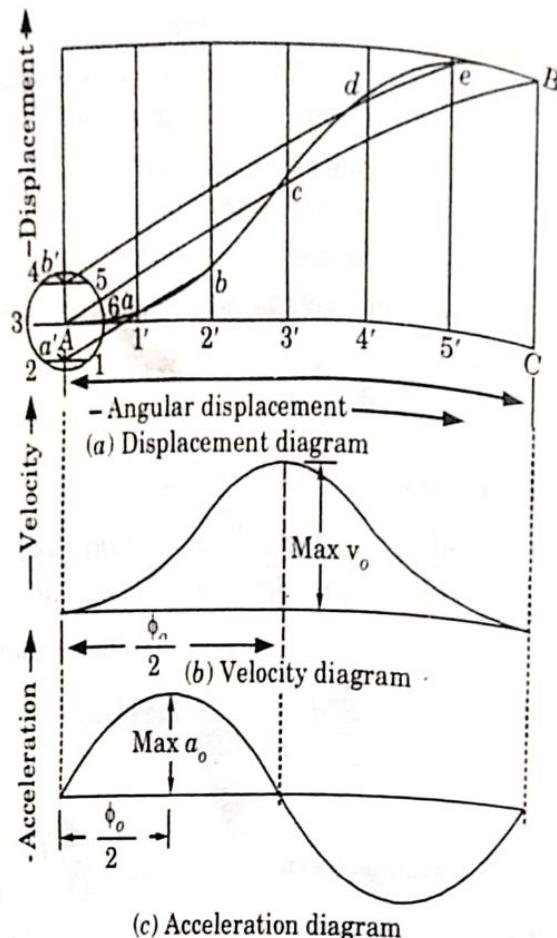

Fig. 2.8.1. Displacement, velocity and acceleration diagrams when the follower moves with cycloidal motion.
- The displacement, velocity and acceleration diagrams when the follower moves with cycloidal motion are shown in Fig. 2.8.1(a), (b) and (c) respectively.
- Divide the circle into any number of equal even parts (say 8). Project these points horizontally on the vertical centre line of the circle. These points are shown by a' and b' in Fig. 2.8.1(a).